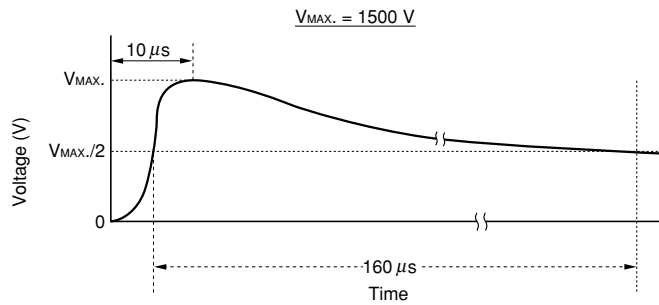

Figure 3.8 Surge Voltage Waveform
The UA2 series relay can withstand even if the surge voltage shown in Figure 3.8 is applied (1) between opening contacts, (2) between coil and contacts, or (3) between adjacent contacts.